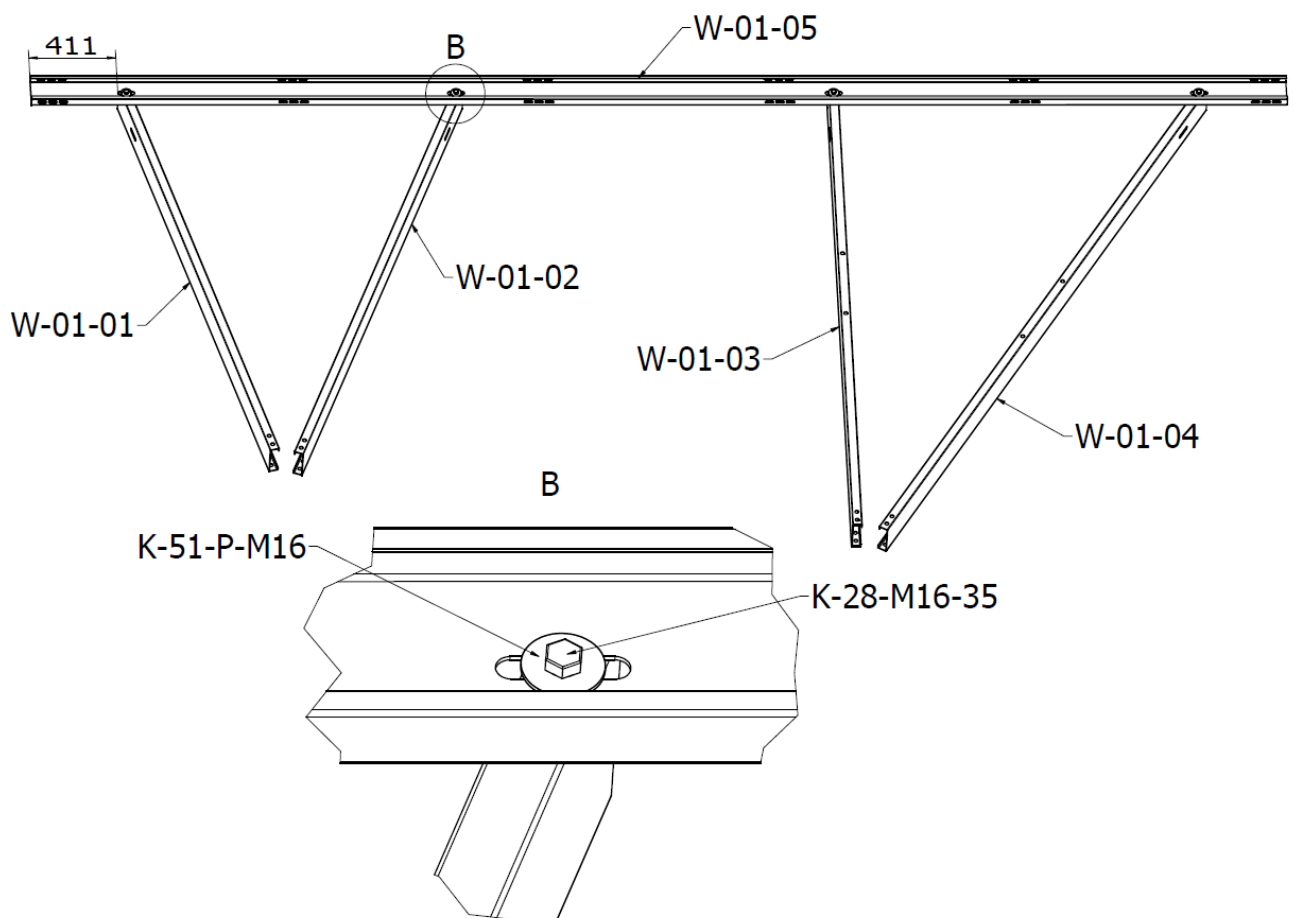
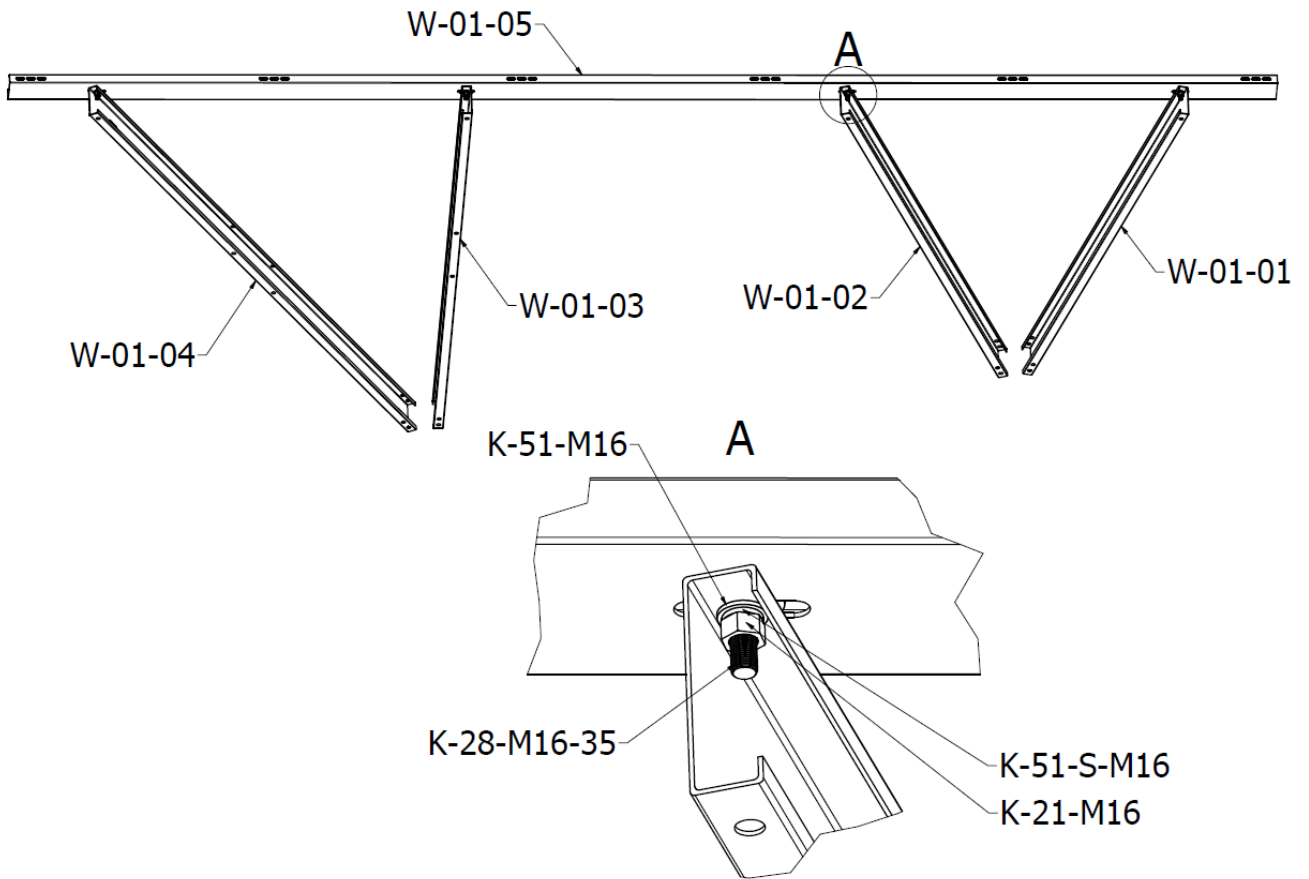

FIG.3 Pre-bolting the rafter to the supports (1st projection)
FIG.4 Pre-bolting the rafter to the supports (2nd projection)
The supports (W-01-01/02/03/04) must be fastened to the oblong holes in the rafter one by one. To do so, proceed as follows: starting from the rafter side, put a hexagon bolt (K-28-M16-35) with an expanded washer (K-51-P-M16) through the prepared oblong hole and through the circular hole in the support, then place a washer (K-51-M16) and a spring washer (K-51-S-M16) on the bolt on the support side and secure the connection using a hexagon nut (K-21-M16). Reference (FIG.3, FIG.4) for what the final result should look like. The supports must face with the open "U" side inwards.
**NOTE:** Before pre-tightening, measure the distance from the beginning of the rafter to the nearest edge of the first opening. From the side where this dimension is 411 [mm], the supports must be bolted in the following order: W-01-01, W-01-02, W-01-03, W-01-04 (FIG.4).